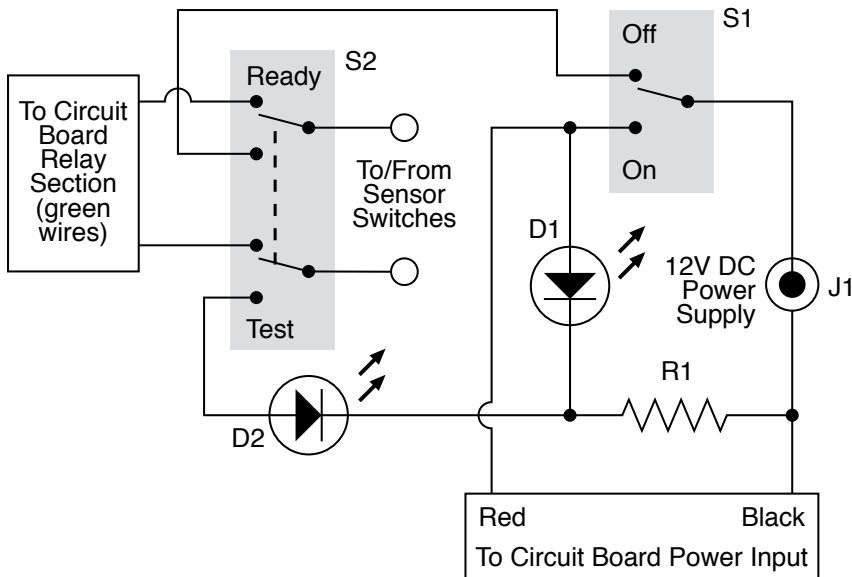

Figure 3-106. This schematic suggests a convenient way to add an on/off switch, a continuity testing feature, and a noisemaker testing feature to the alarm.
The circuit shown in Figure 3-106 incorporates all of these features. S1 is a SPDT switch; S2 is a DPDT momentary pushbutton of ON-(ON) type. I spliced S2 into the circuit by first cutting the two green wires that connect the sensor switches with the rest of the relay circuit. I then attached one pair of those wires to one side of S2 and the other pair to the other side, as shown in the figure. The schematic shows it in its "relaxed" mode, when the button is not being pressed.